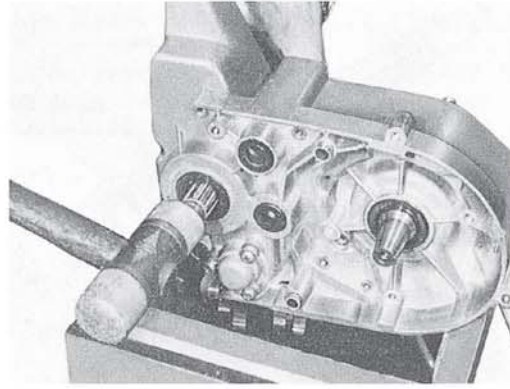

Fig. IV-15-4
- 2) Remove both the transmission assembly and the shift forks from the crank-case, while tapping the drive shaft end with a plastic-tip hammer. (Fig. IV-15-4)